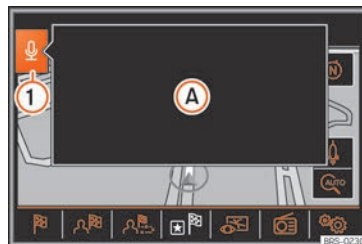

**Fig. 181** Voice control: indication of the help menu elements that can be pronounced.
- Speak the commands when the audio and audio signals have finished playing, and the symbol  »» Fig. 181 ① is displayed on the screen.
A help menu is displayed with the most important orders in the active mode at the time (e.g. Navigation) »» Fig. 181 ①. Other elements that can be spoken are shown in red on the corresponding screen »» Fig. 181. The help menu indication can be activated and deactivated in the **Voice control settings** menu »» page 184.